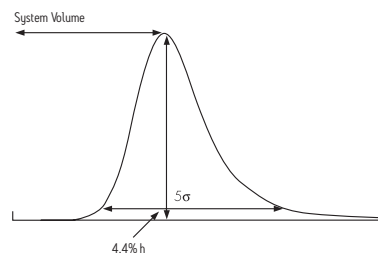

Figure 2: Determination of System Bandspreading Using the 5-Sigma Method
3. Use the 5-Sigma method shown in Figure 2 to obtain the band spreading value in μL .
This section describes how to measure extra column effects and gives some guidelines on how to maximize the advantages of your Waters narrow-bore column. Modifications to your HPLC system will probably be required in order to avoid system band spreading. Without proper system modifications, system band spreading causes peak broadening and has a large impact on peak width as peak volume decreases. To measure the band spreading of your HPLC system, refer to the procedure, Measuring Instrument Band Spreading, in Section II. a. and refer to Figure 2.